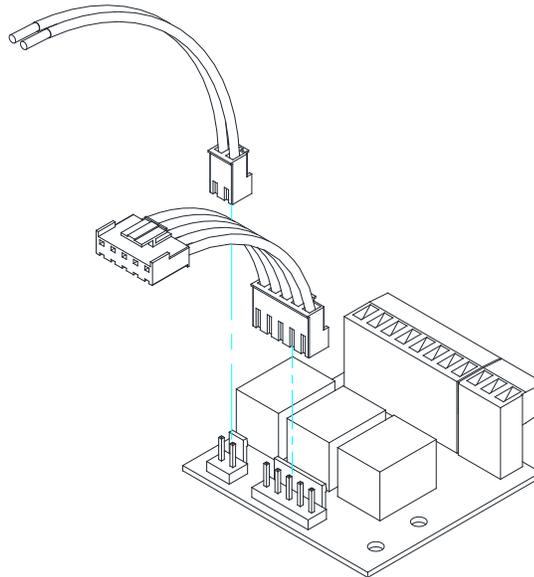

Figure 1
4. Plug the provided connectors into the Auto-lock Module. See **Figure 1**.